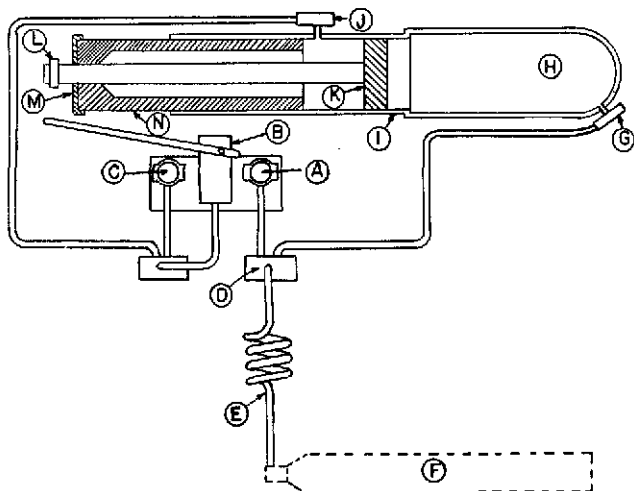

FIGURE 3.—Recuperator system (schematic).
■ 47. RECUPERATOR SYSTEM.—The recuperator system (fig. 3) is hydropneumatic. On the M1919 carriage it consists of two recuperator cylinders, one at the top and one at the bottom of the cradle; on the M1919MI carriage, it consists of three recuperator cylinders located at the top of the cradle; and on the M1920 carriage it consists of one recuperator